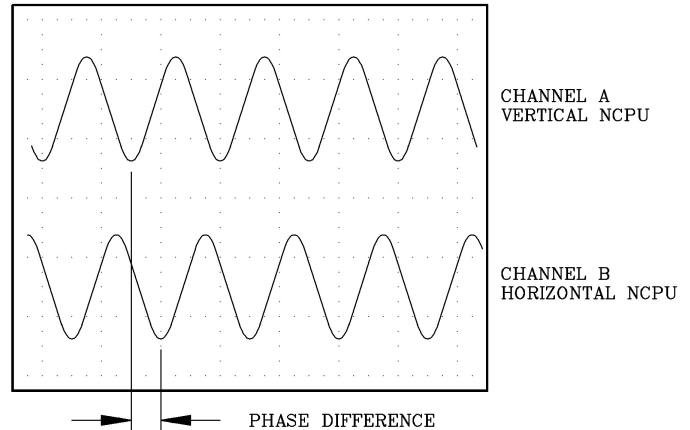

Fig. 2.3
9. Adjust the oscilloscope controls so that two channels are displayed in time based mode. Position the vertical transducer signal at the top of the display and position the horizontal display at the bottom of the display. A display similar to Figure 2.3 should be present. Note that the two signals are not in phase. This can be seen when the vertical signal is superimposed onto the horizontal signal. Amplitude and frequency measurements can be obtained as described in the Single Proximity Transducer Topic.